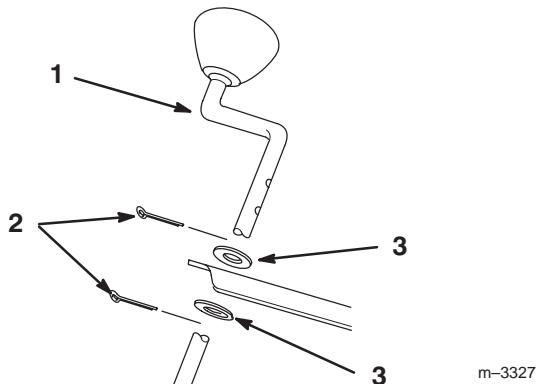

Figure 12
5. Install a 1/8 x 3/4" (19 mm) cotter pin into top hole in chute crank shaft (Fig. 12).
6. Slide a 3/8" (10 mm) washer onto crank shaft and insert crank shaft thru mounting hole in top bracket (Fig. 12).
7. Slide a second 3/8" (10 mm) washer onto crank shaft and secure with 1/8 x 3/4" (19 mm) cotter pin (Fig. 12).